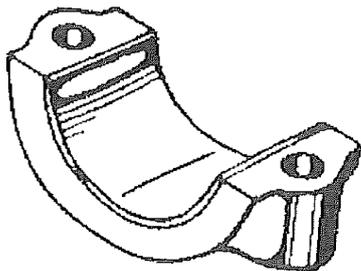

Fig. 1.
2. Place a piece of Flexigauge across the bearing at the crown (see fig 1)